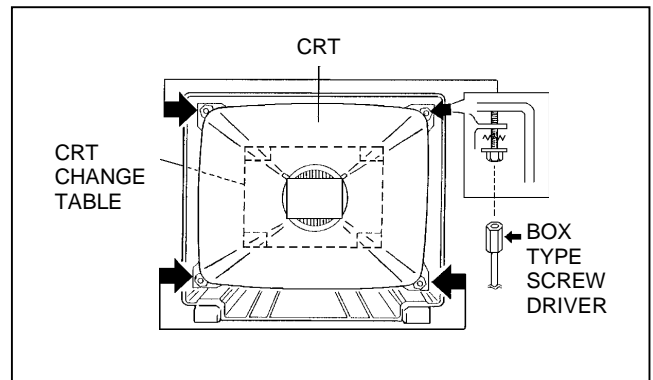

Fig. 6
2. While keeping the surface of CRT down, mount the TV set on the CRT change table balanced well as shown in Fig.6.
3. Remove 4 screws marked by arrows with a box type screw driver as shown in Fig.6.